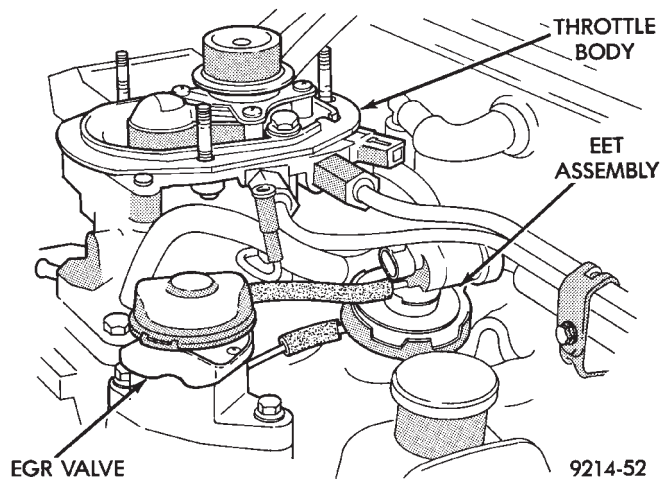

Fig. 17 Electric EGR Transducer
(1) Disconnect the electrical connector from the electronic EGR transducer solenoid (Fig. 17).
(2) Disconnect vacuum hoses.